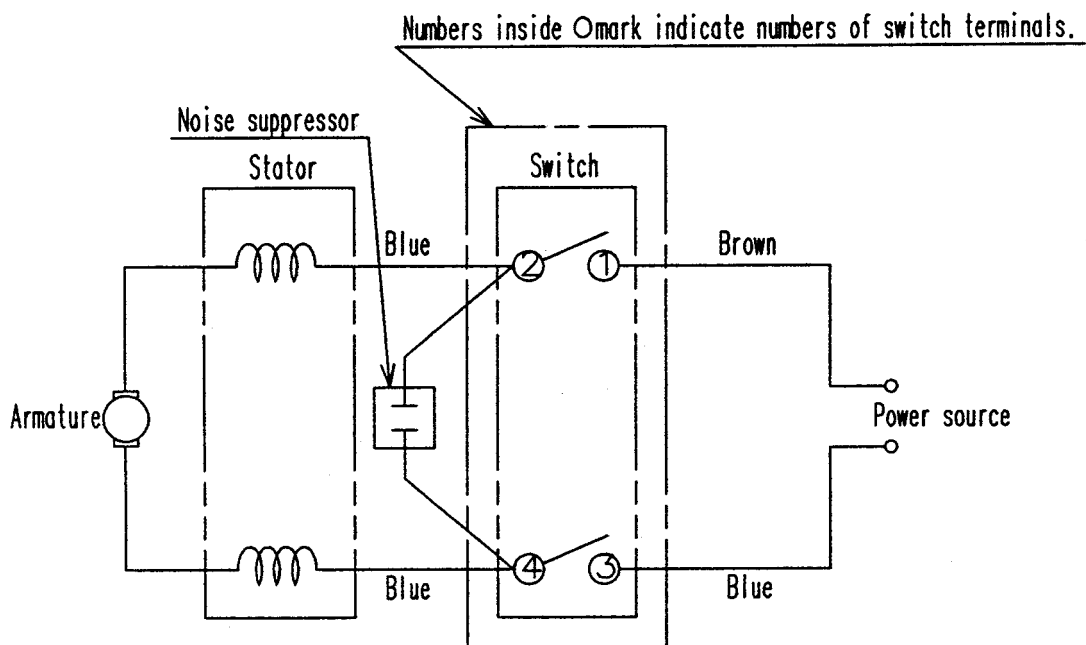

Fig. 14
(7) Wiring diagram (See Fig. 14.)